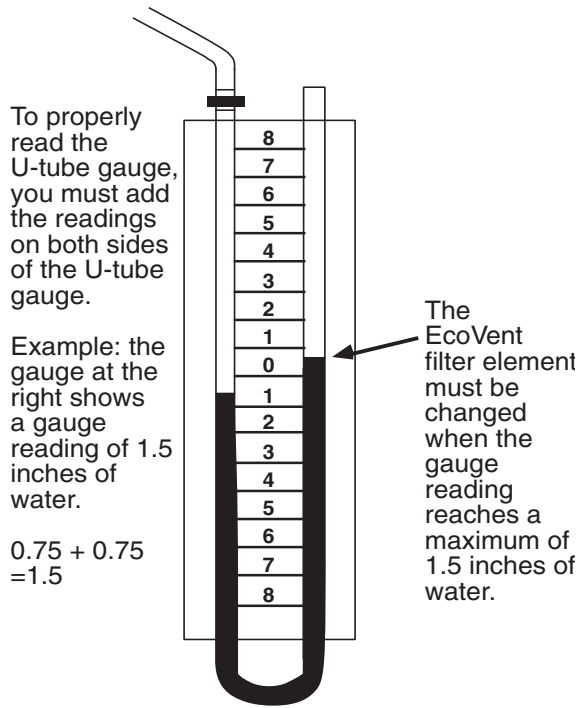

Figure 8 • U-tube Manometer Gauge Reading
- Monitor the reading on the manometer. When it reaches a reading of 1.5" H2O positive pressure (see figure 8) replace the EcoVent element, as shown in the Maintenance Section.